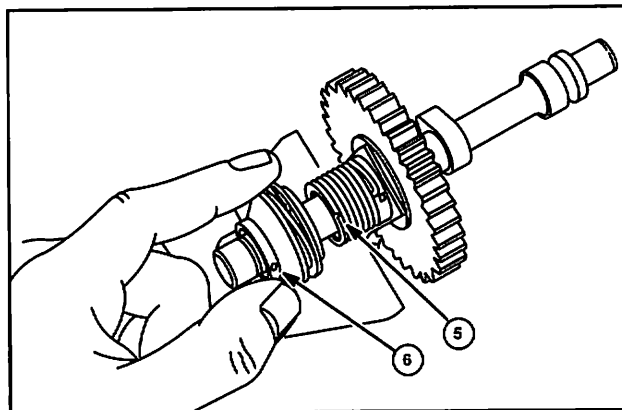

Fig. 59
3. Depress spring tab, if required. When clutch sleeve is in place, spring tab (5) should be in sleeve hole (6), Fig. 59.